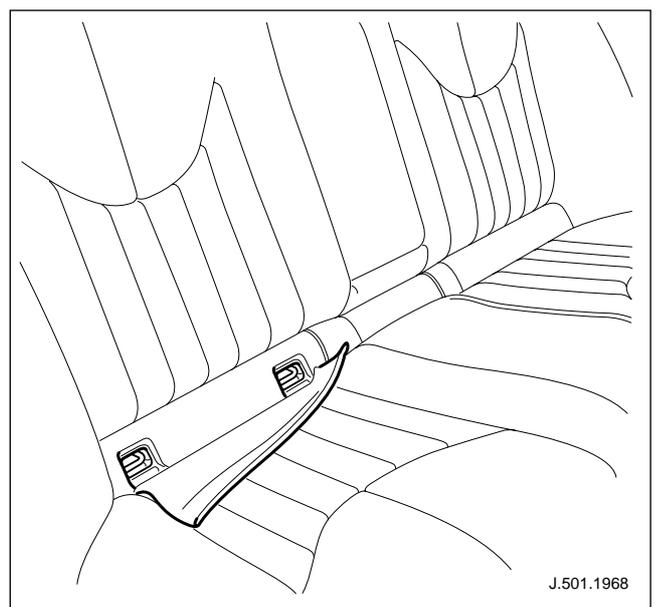

Fig. 46 ISOfix anchor seat-flap (S-Type)
2. On S-Type vehicles (fig. 46) the lower anchors are immediately accessible by releasing the Velcro fastening on the seat flap.